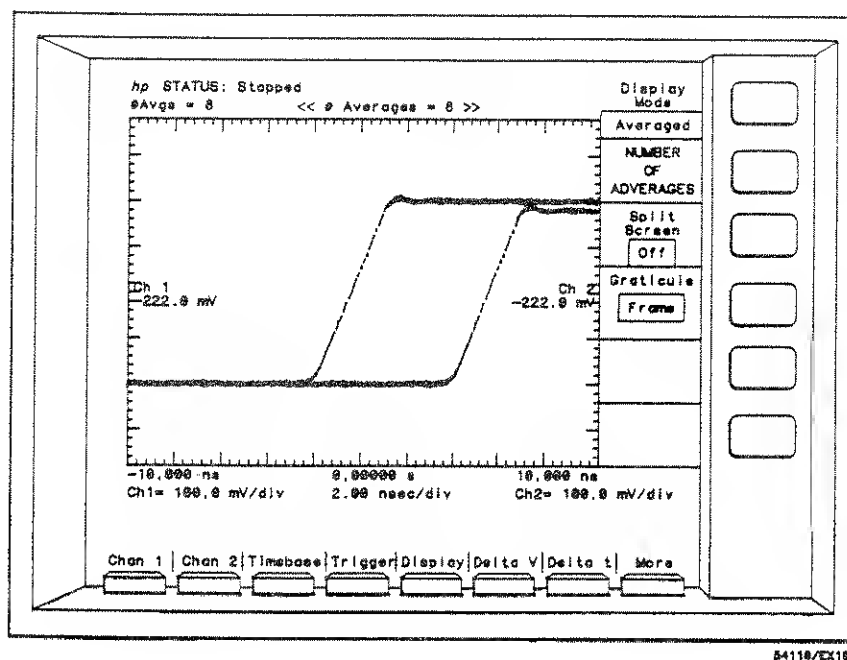

Figure 7-24. Time delay Chan 1 to Chan 2.
1. Connect a cal signal to chan 1 using a 1 metre BNC cable, connect the other cal signal to chan 2 using a 2 metre cable. The time delay between the signals that is created by the unequal cables is approximately 6.4 ns. (See figure 7-24)